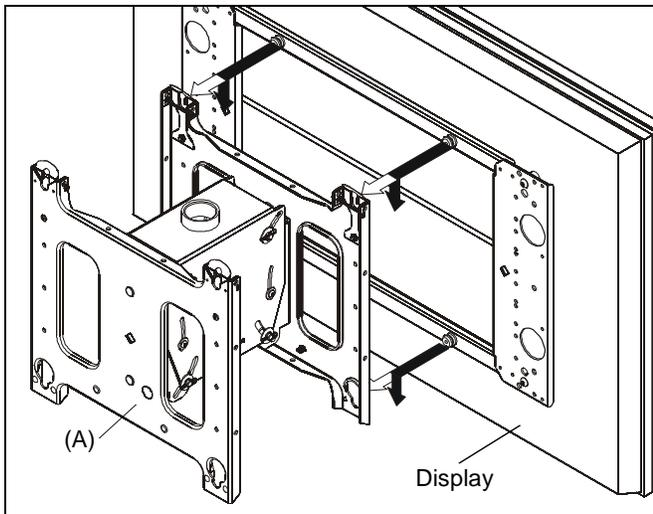

Figure 1
1. While supporting each side of display, align four mounting buttons on display or interface bracket with four slots on PDC. (See Figure 1)